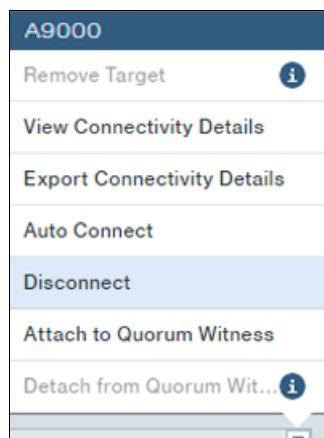
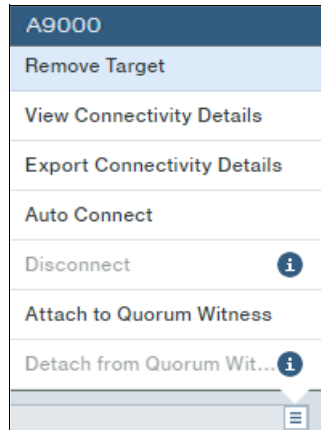

Figure 8-25 Disconnection migration target
Figure 8-26 Removing migration Target
2. Select **Disconnect** from the **Actions** menu, as shown in Figure 8-25.
- Using the same menu as shown in Figure 8-25 on page 190, select **Remove Target**, as shown in Figure 8-26.